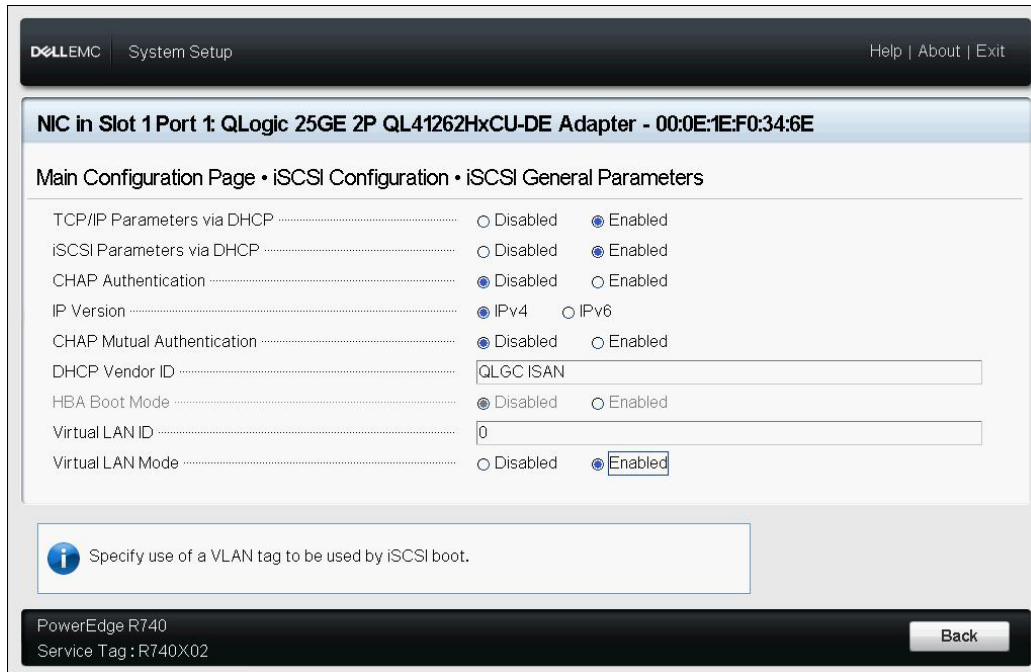

Figure 6-14. System Setup: iSCSI General Parameters
- On the iSCSI General Parameters page, set the following options, as shown in Figure 6-14: